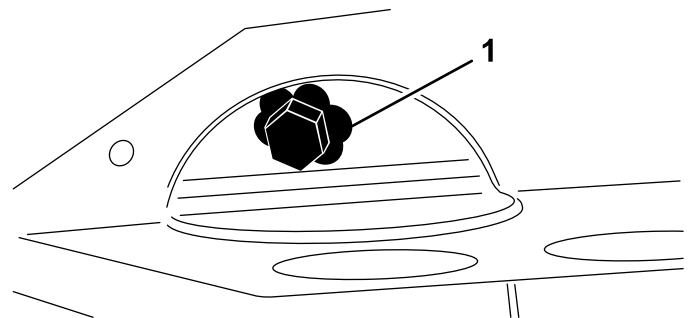

Figure 45
2. Remove the drain plug (Figure 45) and let the oil flow into a drain pan.